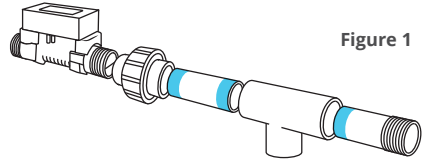

Figure 1
1. Using PVC primer and glue, assemble the piping as shown to the right (Figure 1). Ensure enough glue cure time before running water through the system.